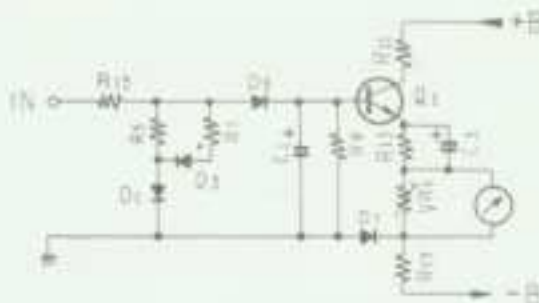
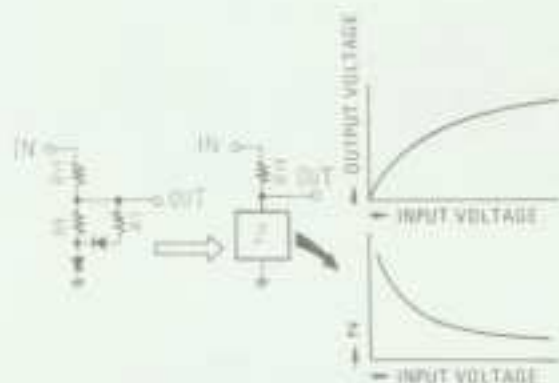

Fig. 7 Schematic diagram of meter amplifier.
Fig. 8 Schematic diagram of logarithmic compressor
**Meter Amplifier (Figs 7, 8)**
In order to indicate the 0.01W - 400W range with one meter without range switching, a logarithmic indication type meter must be employed and the input signal must be logarithmically compressed. The meter amplifier circuit is shown in Fig. 7. This circuit consists of a logarithmic compression circuit and a meter drive circuit. The output signal of the power amplifier is applied to the logarithmic compression circuit, and its dynamic range is compressed. The principles of the logarithmic compression circuit are given in Fig. 8. The output voltage of this circuit is the value divided by  $R_{13}$  and  $Z$ . The attenuation at low signal input is reduced and the attenuation at large signal input is increased, by using the rise of the diode current-voltage characteristic at  $Z$ .